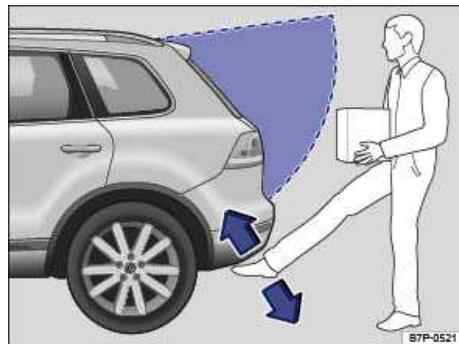

Fig. 33 Keyless Access locking and starting system: Opening the sensor-controlled rear hatch (Easy Open).
When a valid vehicle key is within range of the rear hatch \Rightarrow fig. 28 (A), the rear hatch can be unlocked and opened by moving your foot within the sensor's range \Rightarrow fig. 33 below the rear bumper.